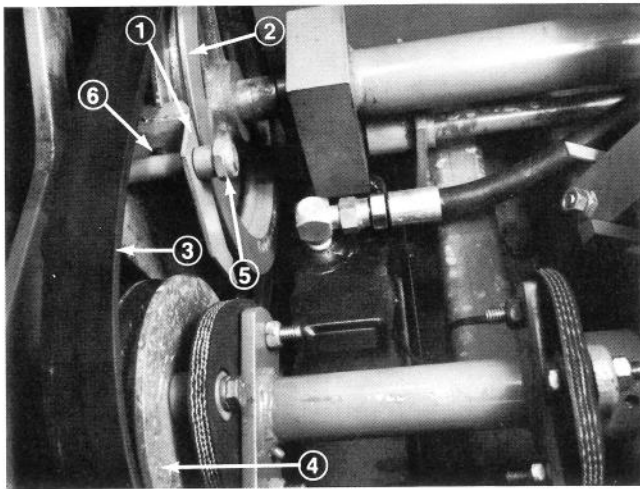

Figure 45
2. Move PTO lever to ENGAGE position. Loosen adjusting locknut (Fig. 45) so brake is free to move. Then move PTO lever to OFF and position the brake in grooves of pulley.